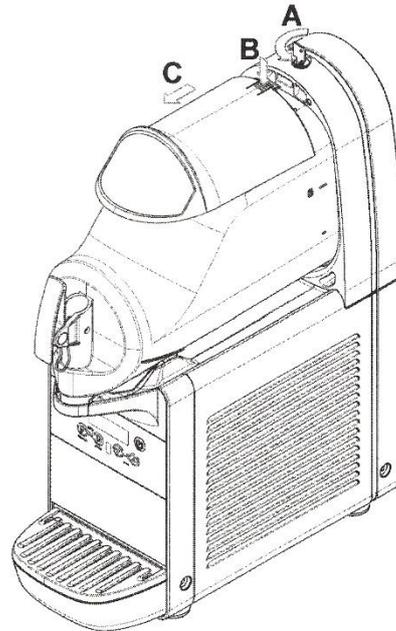

figure 2
- 1 To remove the lid of the container, press the top button and slide the lid towards the front of the container. If there is a safety lock for the lid, turn the key in an anti-clockwise direction to release the open button (see figure 2).